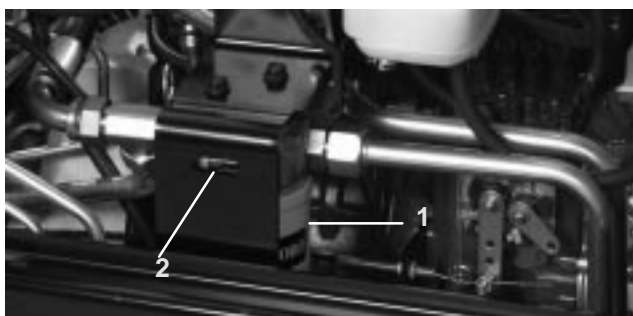

Figure 58
2. Clean area around filter mounting area. Place drain pan under filter and remove filter (Fig. 58).